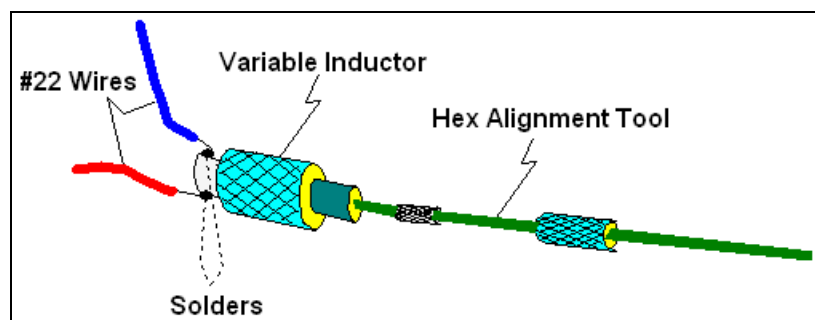

Fig. 1-1 Step 1
1. Cut two 2-inch lengths of #22 hook-up wire. Strip 3/8 inch insulation from the ends of each of the wires. Solder one end of each wire to the two terminals on the variable inductor, (Fig. 1-1).